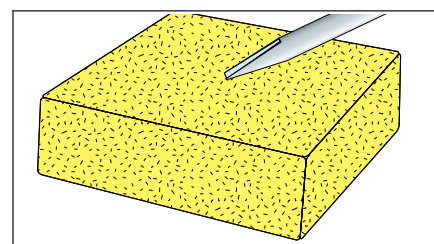

Figure 2 Clean Tip
5. Remove old solder from tip and thermal shock tip with damp sponge. (See Figure 2.)